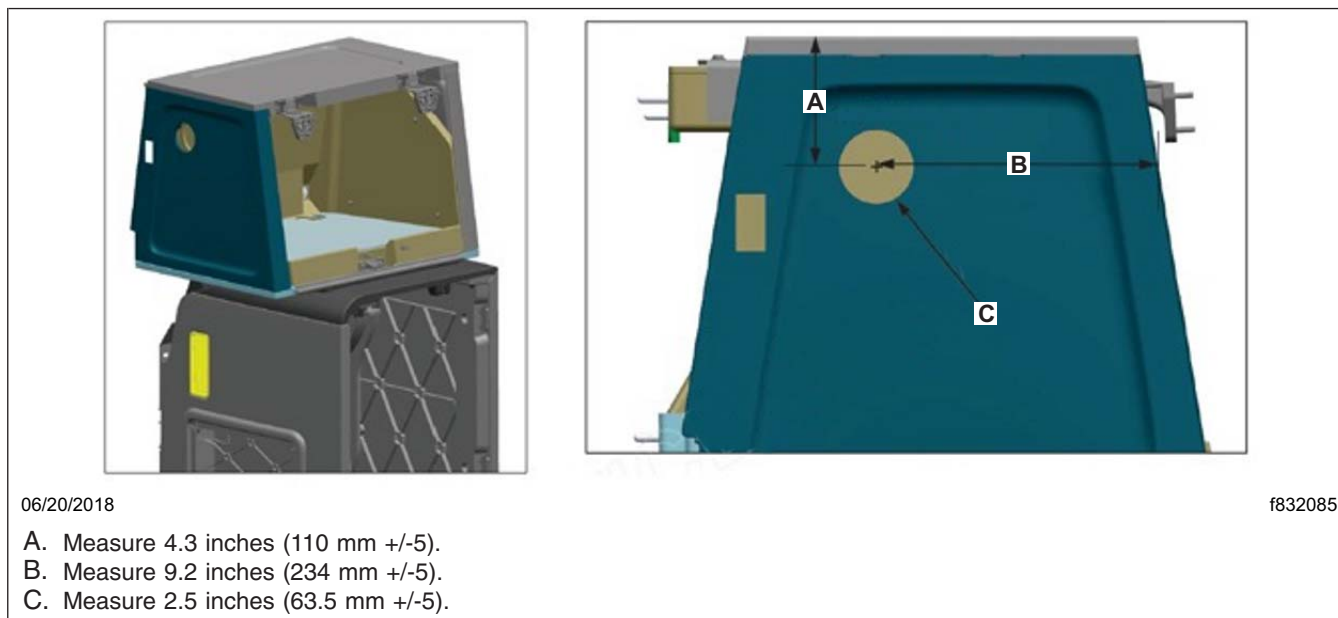

Fig. 8, Drilling the Hole for the Louver
7. Measure and locate the mounting hole for the louver (Item B), then drill through the outside panel of the upper cabinet using a 2-9/16 hole saw. See Fig. 8 .